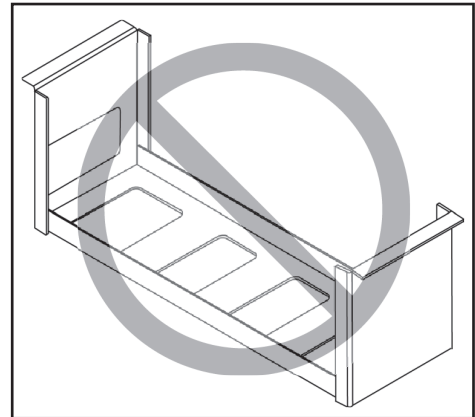

Figure 1
- a) If the battery tray is formed as one solid piece (has no angle steel members) as shown in **Figure 1**, no repairs are necessary. Take photos and then reinstall the entry step cover. Ensure the bulb seal is properly positioned around the perimeter before reinstalling the cover.